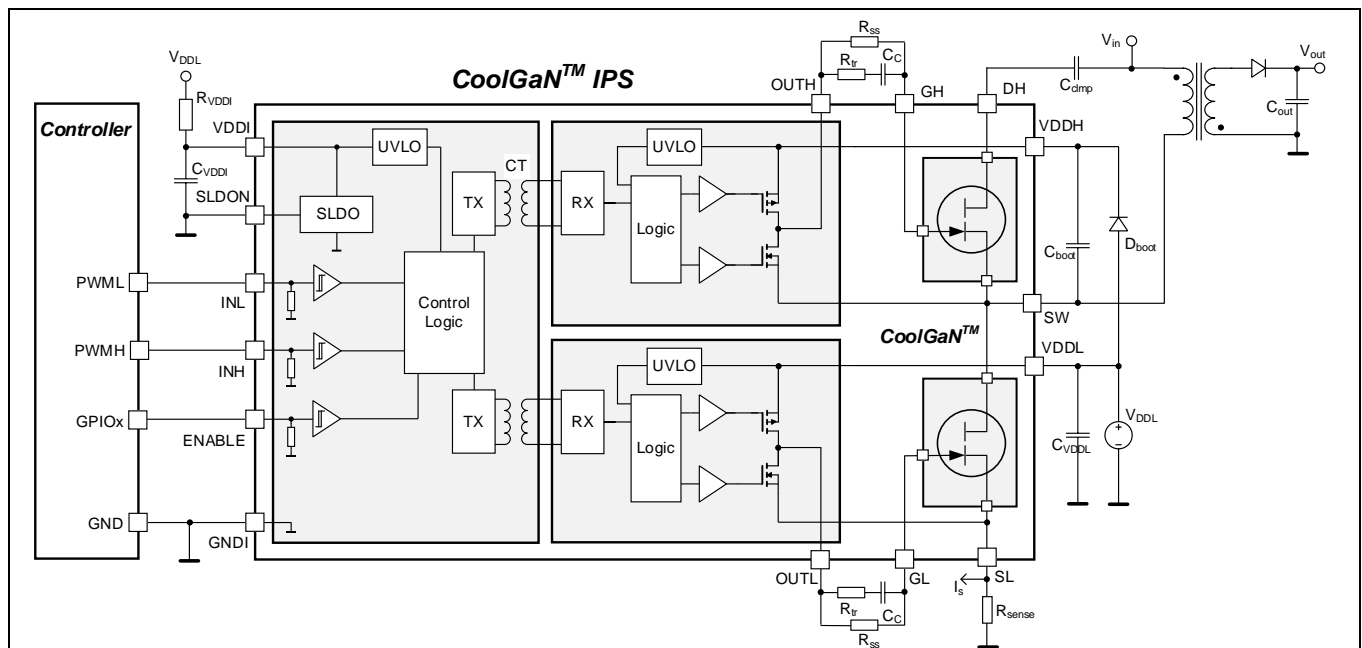
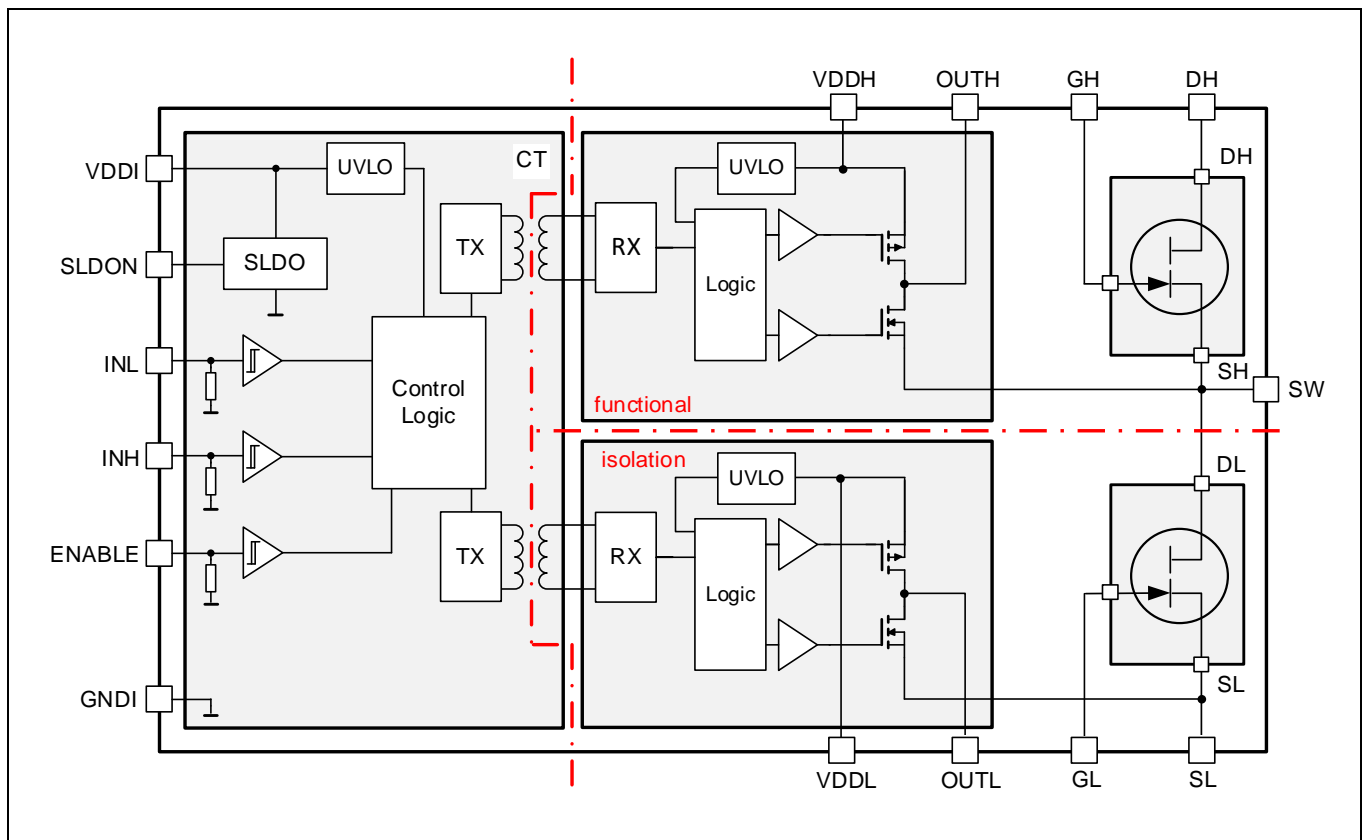

Figure 1 Typical application circuit (active clamp flyback converter)
Figure 3 Block Diagram IGI60F1414A1L
IGI60F1414A1L combines a half-bridge power stage consisting of two 140 mΩ (typ. R_{dson}) / 600 V enhancement-mode CoolGaN™ HEMTs with dedicated gate drivers in a small 8 x 8 mm QFN-28 package. In the low-to-medium power area (example application in Figure 1), it is thus ideally suited to support the design of high-density AC/DC chargers and adapters, utilizing the superior switching behavior of CoolGaN™ HEMTs.
A simplified functional block diagram of the CoolGaN™ Power Stage is given in **Figure 3**. For the level-shifting function of the input signal to the high-side switch an on-chip coreless transformer (CT) is utilized. For symmetry reasons a CT is also included in the low-side path, resulting in both a galvanic input-to-output and high-to-low-side isolation. In addition, this CT separates the low-side gate driver reference (SL) from GNDI allowing to use a shunt resistor for current sensing as shown in **Figure 1**.
If no separate 3.3 V supply is available, the input side can also be operated with V_{DDL} (typically 8 V). Then the shunt LDO voltage regulator (SLDO) has to be enabled by connecting pin SLDON (pin#23) to GNDI. The SLDO regulates the current through an external resistor R_{VDDI} connected between V_{DDL} and pin V_{DDI} as depicted in Figure 1 to generate the required voltage drop. For proper operation it has to be ensured that the current through R_{VDDI} always exceeds the maximum supply current I_{VDDI} of the input chip. R_{VDDI} thus has to fulfil:
Both output dice have to be supplied by a voltage of typically 8 V related to the source of the respective GaN switch. In many applications the floating high-side supply V_{DDH} can be generated from the ground-related V_{DDL} by means of bootstrapping (components D_{boot} , C_{boot} and R_{boot} in Figure 1). A ceramic bypass capacitance C_{VDDL} of typically 100 nF has to be placed close to pin V_{DDL} .